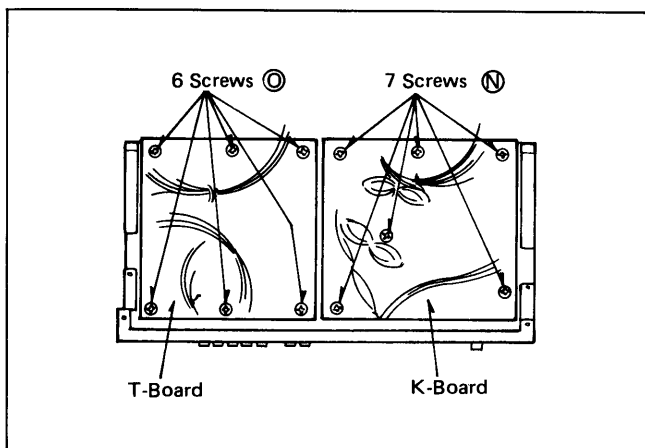

Fig. 13
- Remove 7 screws (N), and remove the "K"-Board as shown in Fig. 13.
- Remove 6 screws (O), and remove the "T"-Board as shown in Fig. 13.